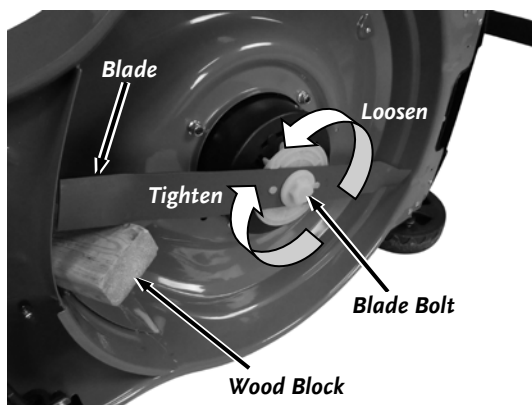

Figure 19
2. Use a block of wood to hold the blade steady (**Figure 19**).